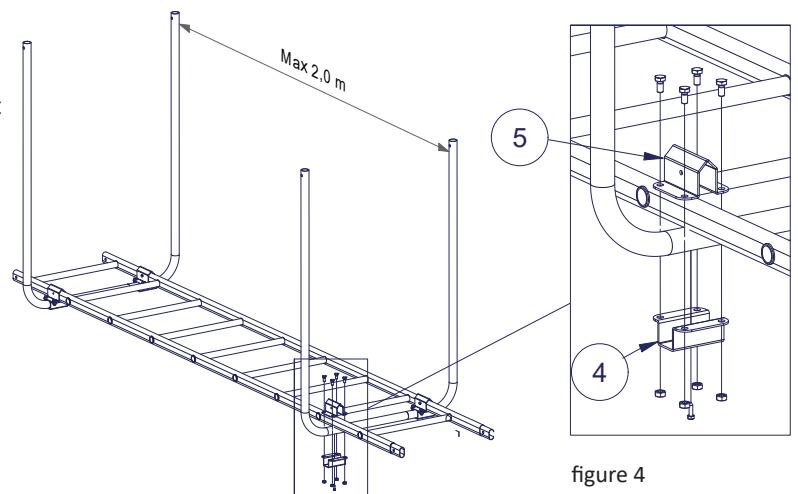

figure 4
2. Attach the vertical bars to roof ladder with crossing collet and ladder fastening collet by using four bolts M8x16 and nuts M8 (figure 4).